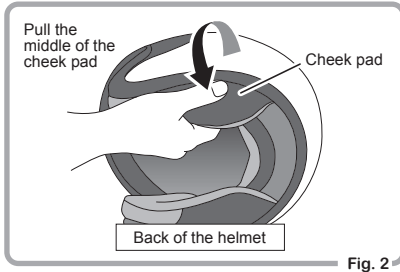

Fig. 2
- ① First, undo the 2 snaps on the back side of the cheek pad.
- ② Pull a cheek pad by holding the centre of the pad as shown in Fig.2.
- ③ Follow the same steps on the other side.